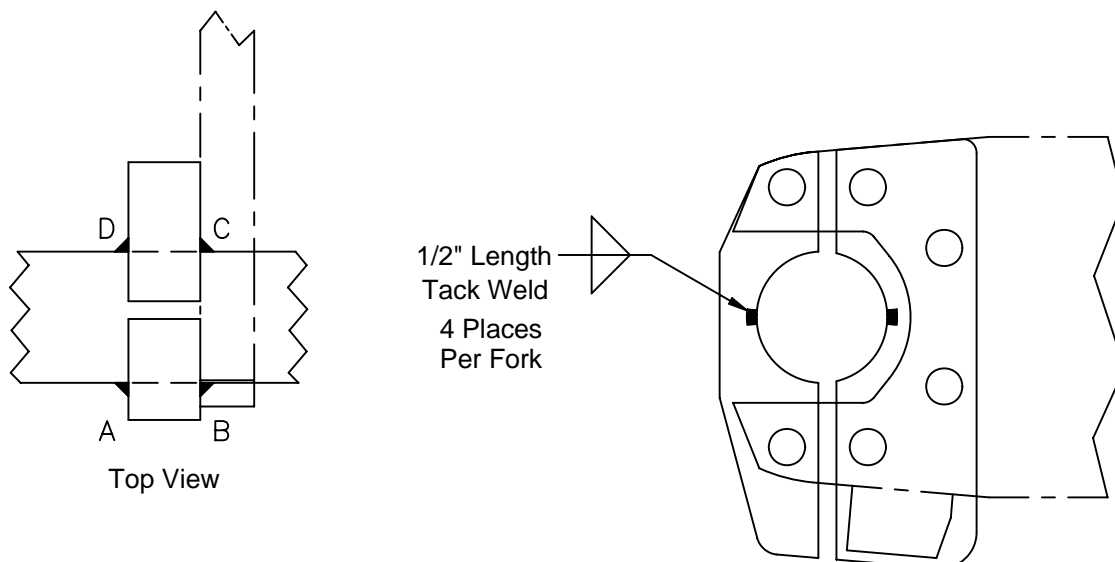

Figure 5-G
- 5.5.4 **Remove** the Front Fork Scales from the mounting clamps and completely weld the Mounting Clamps to the cross tube using a minimum three pass, 3/8" fillet weld (refer to Figures 5-H and 5-I).